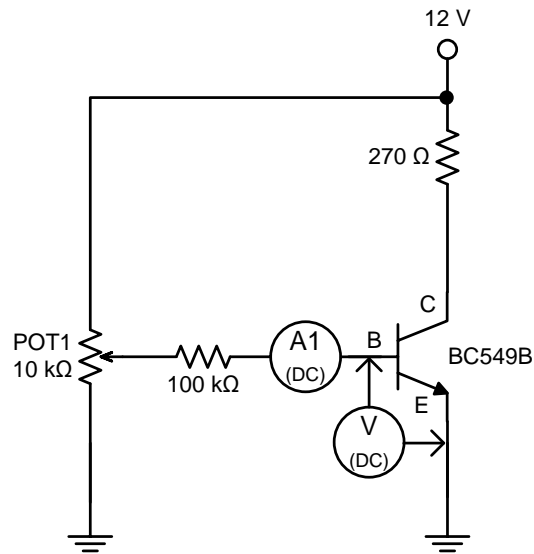

Figure 2.
2.1 Connect the circuit as shown in Figure 2.